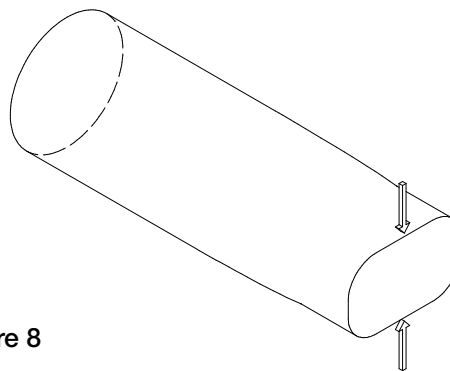

Figure 8
8. Connect ductwork by squeezing ductwork and sliding over the fans discharge, see Figure 8. Attach the ductwork to the discharge by using a clamp and seal with approved tape.